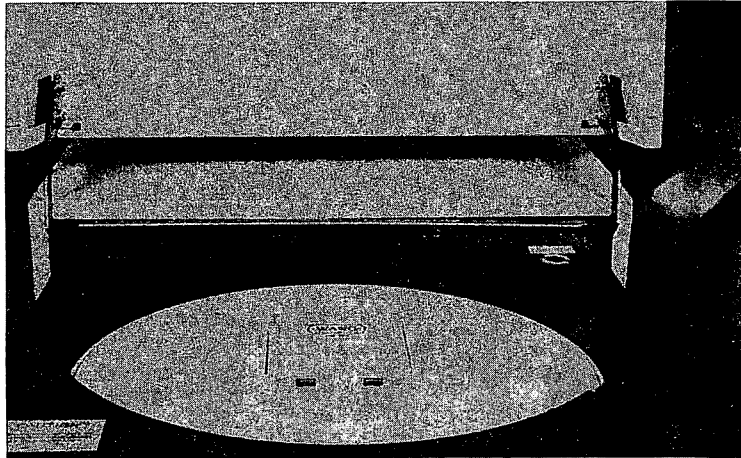

Figure 2-11. Cartridge Loaded in Disk Unit
- Step 5 Rotate the cartridge until it locks. When the cartridge is correctly located, it sets squarely in position and does not wobble or rotate. Lower the cartridge handle to lock the cartridge onto the spindle (Figure 2-11).